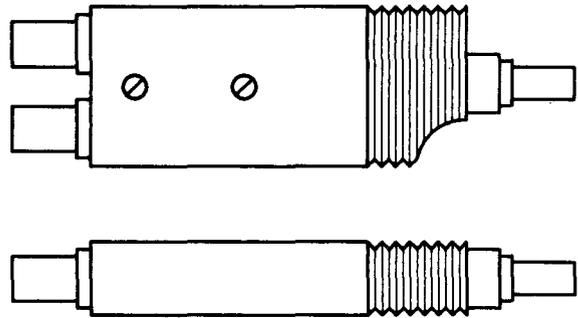

Fig. 7—634A Jack
2.07 634A: The 634A is a terminating double coaxial jack (Fig. 7), intended to be used on the end of patch cords. This jack mates with a 358- or similar-type plugs. The jack is arranged for solderless shield connection to a 760A-type cable and a KS-15712, L22, outer sleeve that is shipped loose. The 634A jack is used on the TH Radio System test set equipment. The test voltage is 2000 volts ac.